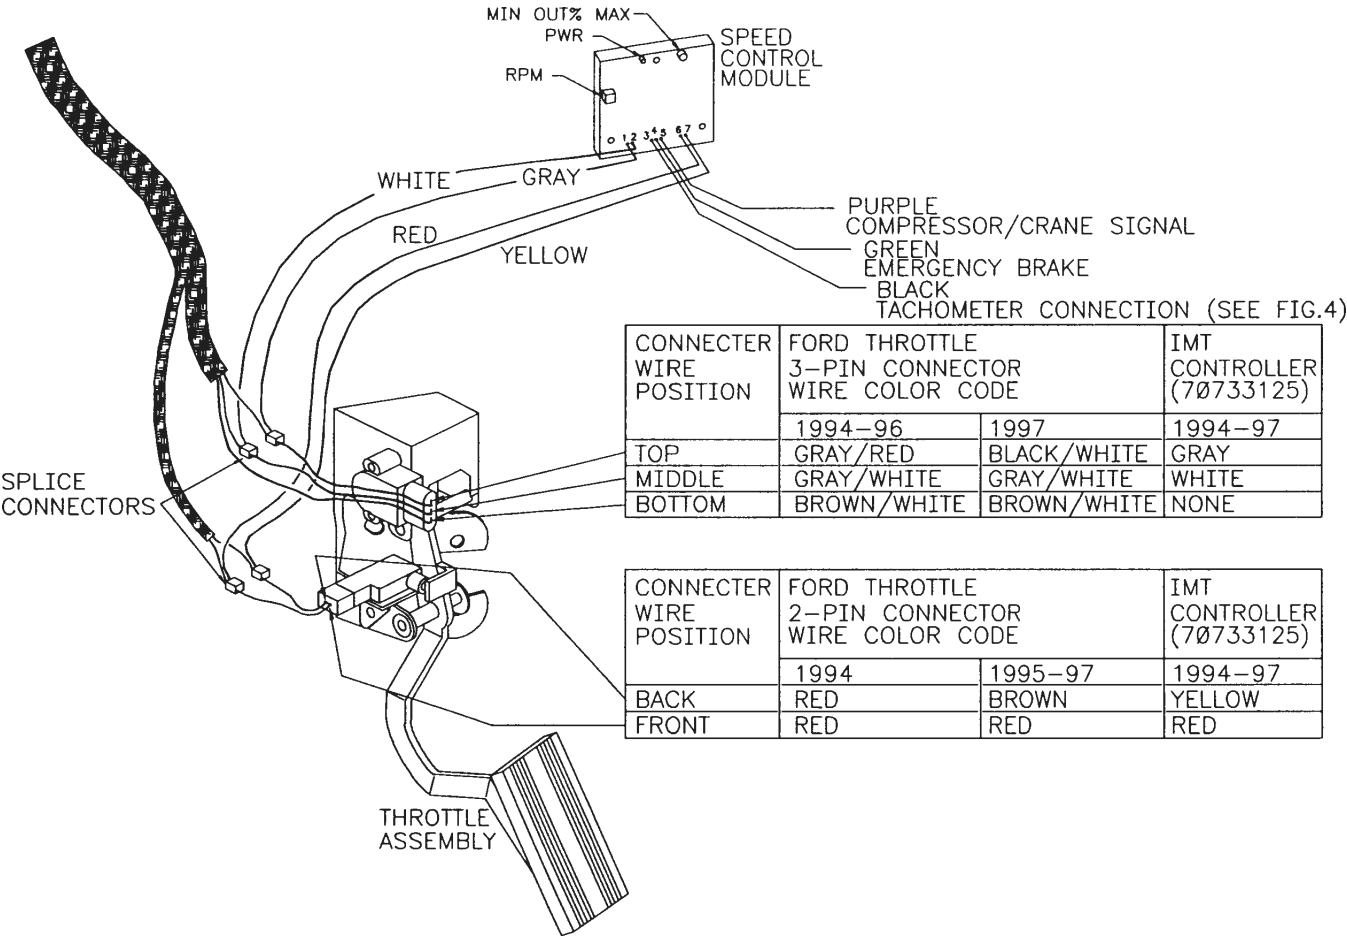

FIGURE 3. GENERAL WIRING DIAGRAM
STEP 4. Locate the Gray, White, Red and Yellow Wires of the IMT Idle Controller. See Figure 3. Route these wires along the top of the Throttle Assembly, then down, along the side next to the 3-pin and 2-pin connectors on the Throttle Assembly.
STEP 5. Refer to Figure 3. Begin at the top of the 3-pin connector of the Throttle Assembly. Locate the Gray/Red Stripe(94-96) or Black/White (97) Wire. Find the Gray Wire coming from the IMT Idle Controller. Using one (1) AMP Tel-Splice Connector, insert the Gray/Red Stripe (94-96) or Black/White (97) Wire into the side of the AMP Tel-Splice Connector which allows the wire to go completely through the connector. Insert the Gray Wire from the IMT Idle Controller into the side of the Tel-Splice Connector that allows the wire to only go through until it hits the back of the connector.
STEP 7. Refer to Figure 3. Locate the Gray/White Stripe Wire connected to the middle position of the 3-pin connector of the Throttle Assembly. Also, locate the White Wire coming from the IMT Idle Controller. Run the Gray/White Stripe Wire through the AMP Tel-Splice Connector which allows the wire to go completely through the connector. Insert the White Wire from the IMT Idle Controller into the side of the Tel-Splice Connector which only permits the wire through until it hits the back of the Tel-Splice Connector.
STEP 10. Refer to Figure 3. Locate the Red Wire coming from the Front position of the 2-pin connector of the Thottle Assembly and the Red Wire from the IMT Idle Controller. Insert the Red Wire from the 2-pin connector to the "through" portion of the AMP Tel-Splice Connector. Insert the Red Wire from the Idle Controller into the other position of the Tel-Splice Connector, until it bottoms out.
STEP 11. Repeat STEP 6 to connect the two (2) Red Wires together.
STEP 12. Refer to Figure 3. Locate the Brown Wire (95-96) or Red Wire (94) coming from the rear position of the 2-pin connector of the Throttle Assembly. Find the Yellow Wire from the IMT Idle Controller. Insert the Brown or Red Wire from the 2-pin Connector in the “through” portion of the AMP Tel-Splice Connector. Insert the Yellow Wire from the Idle Controller into the other position of the Tel-Splice Connector until it bottoms out.
STEP 14. Refer to Figure 3. Locate the Purple, Black, and Green Wires coming from the IMT Idle Control Module.
STEP 16. Refer to Figure 3. Locate the Purple Wire coming from the IMT Controller. Connect this wire to the Compressor and/or Crane speed control signals. Reference drawing 93091611, 93091612, 93091617, 93091613, 93091616, or 93091620 for specified arrangement.